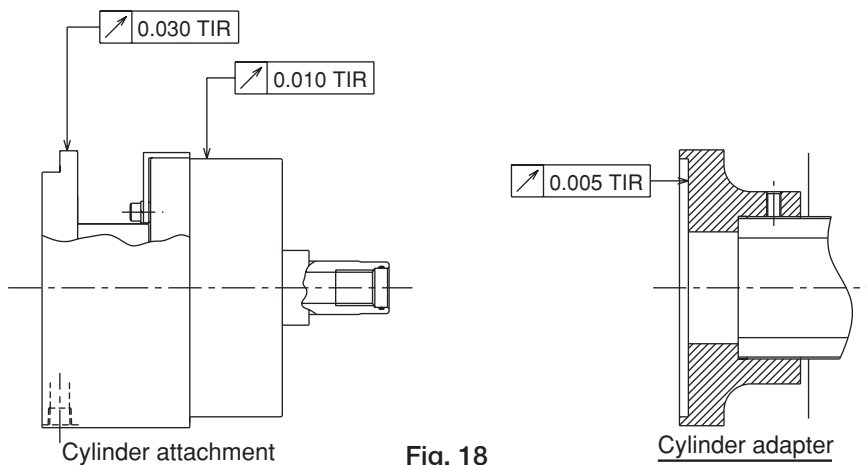

Fig. 18
- As for the run-out when attaching the cylinder, attach the cylinder while keeping the vertical run-out of the sleeve cover rear end and the cylinder periphery at the standard value specified in the Fig.18 or lower when rotation stop of the sleeve cover is applied and the spindle is rotated.